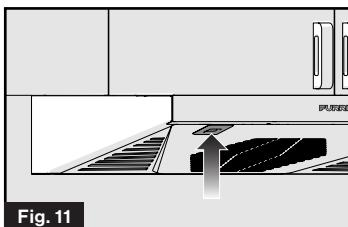
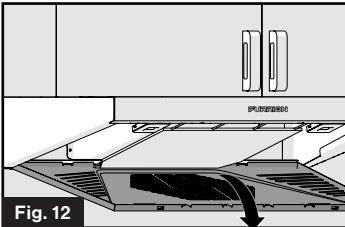

Fig. 11
Fig. 12
2. Lift the filter panel from the rear latches and place on a protected surface. (Fig. 11 and Fig. 12)